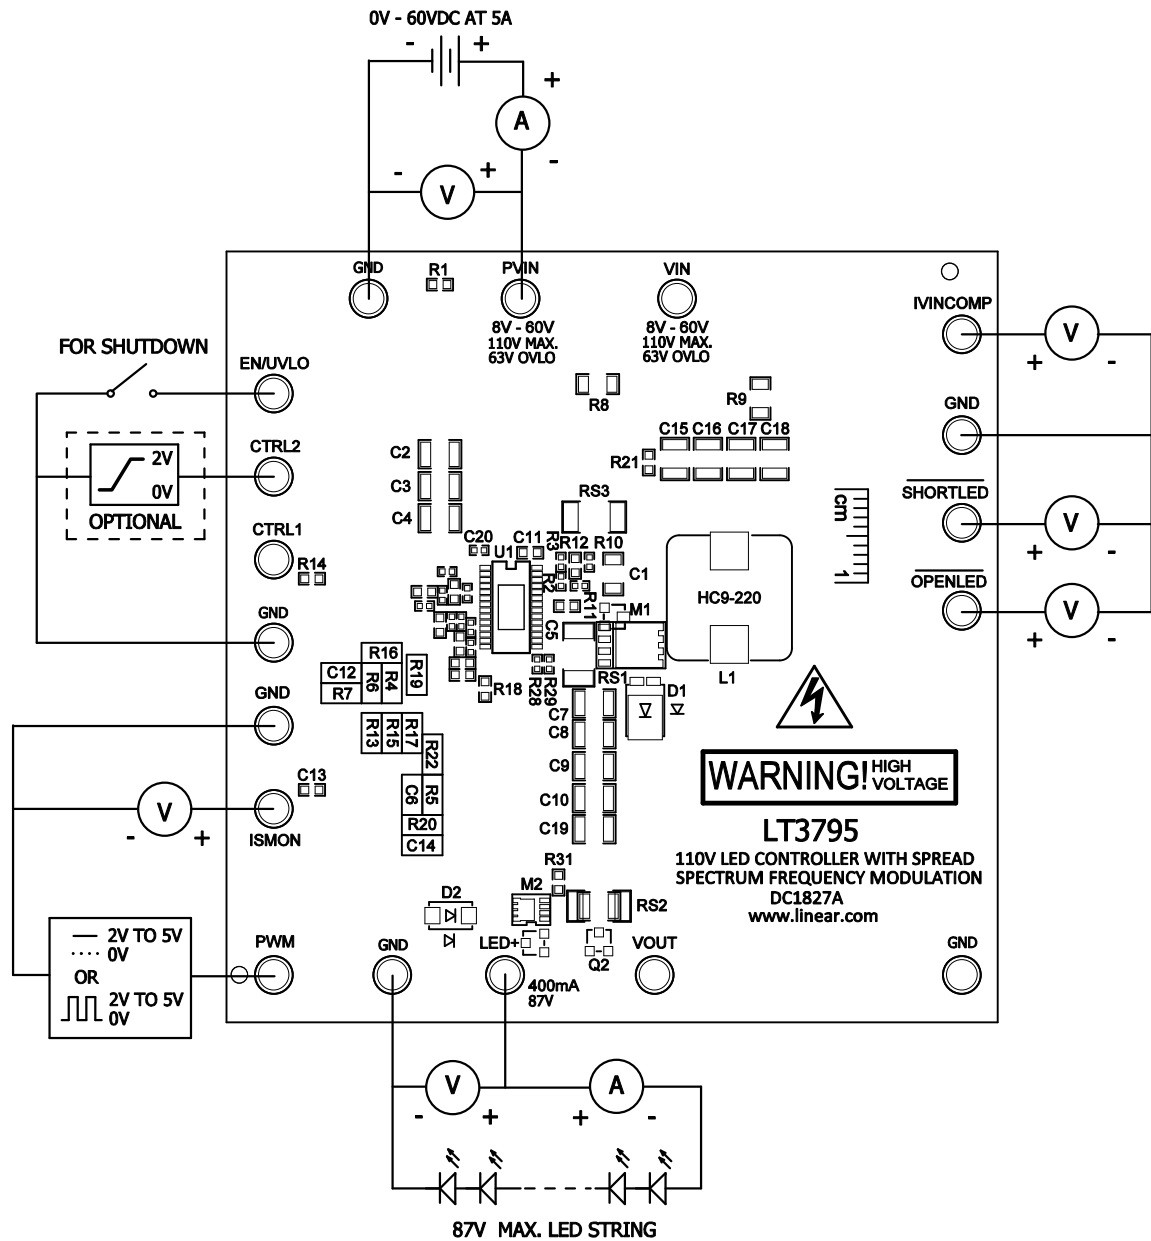

Figure 1. Proper Measurement Equipment Setup for DC1827A
1. Connect a string of LEDs with a forward voltage of 87V or less, but greater than the PV_{IN} voltage, to the LED+ and GND terminals on the PCB as shown in Figure 1.